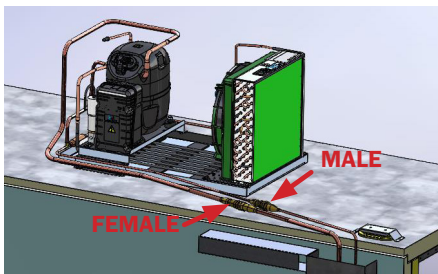

Fig. 14 Male and female piping connections
- With the covers removed, couplings can be disconnected to safely remove condensing unit (Fig. 14). Using a 7/8" wrench, disconnect the male piping connection. Using a 15/16" wrench, disconnect the female piping connection.